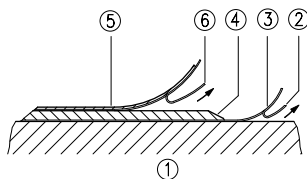

Fig. 1: Mounting of the magnetic strip
**Mounting steps** (see fig. 1)
- Clean mounting surface (1) carefully.
- Remove protective foil (2) from the adhesive side of the magnetic strip (3).
- Stick down the magnetic strip (4).
- Remove protective foil (6) from adhesive tape on the cover strip (5).